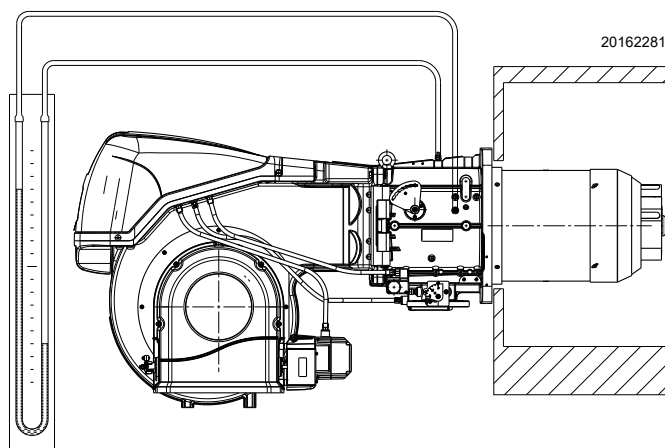

Fig. 26
- Fit a U-type pressure gauge or a differential pressure gauge (Fig. 26), with socket (+) on the gas pressure of the pipe coupling and (-) in the combustion chamber.